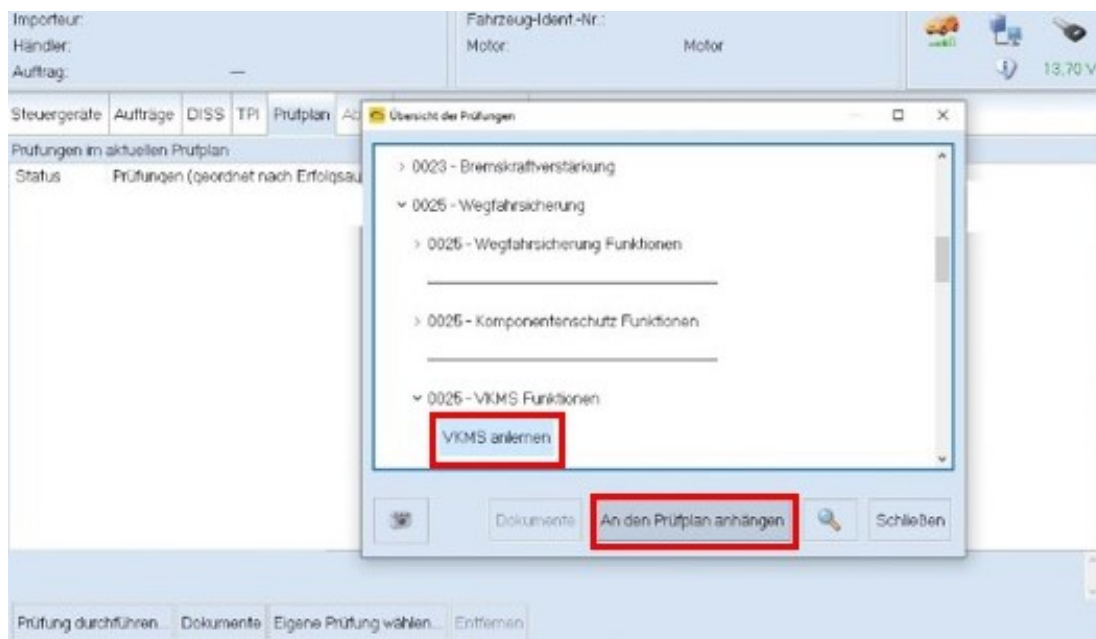

Figure 7: Test plan: Adapt the VKMS
- Select the check **"0025-VKMS Functions -> Adapt VKMS"** (see Figure 7, highlighted in red) and attach it to the test plan (see Figure 7, highlighted in red). **"Systems suitable for diagnosis" -> "0025 - Immobilizer" -> "0025 - VKMS Functions" -> "Adapt VKMS"**.